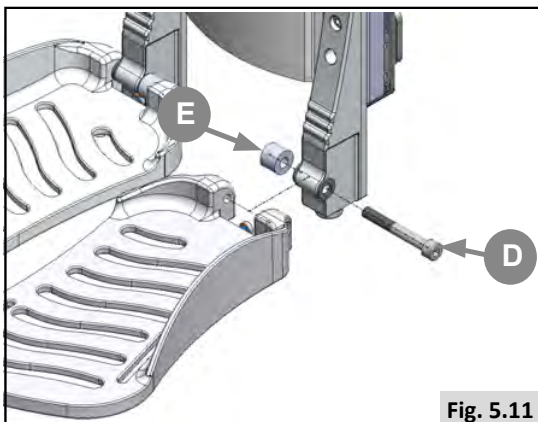

Fig. 5.11
- Remove bolt (D) with an Allen key (Fig.5.11).
- Move spacer (E) from inside of footrest to the outer side.